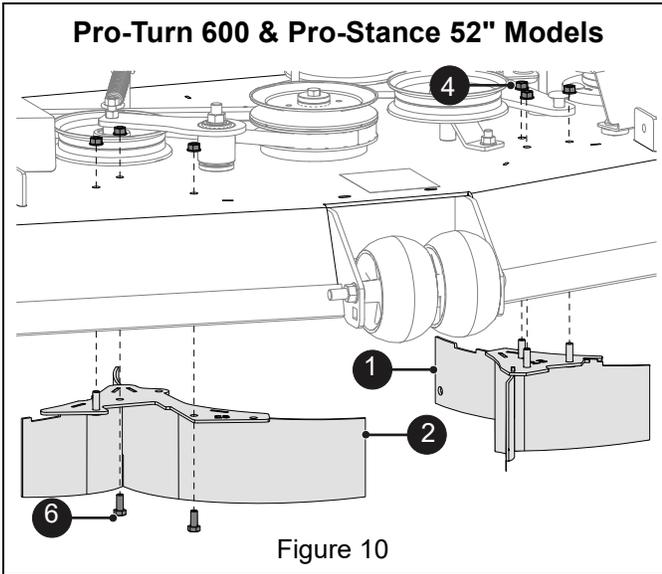

Figure 10
- Position left baffle (item 1) and right baffle (item 2) in mower deck and retain with two 5/16" x 3/4" hex bolts (item 6) and six 5/16" center locking flange nuts (item 4). Torque nuts to 9.1 N•m – 10.2 N•m (80 lb-in – 90 lb-in). See Figure 9 or Figure 10.